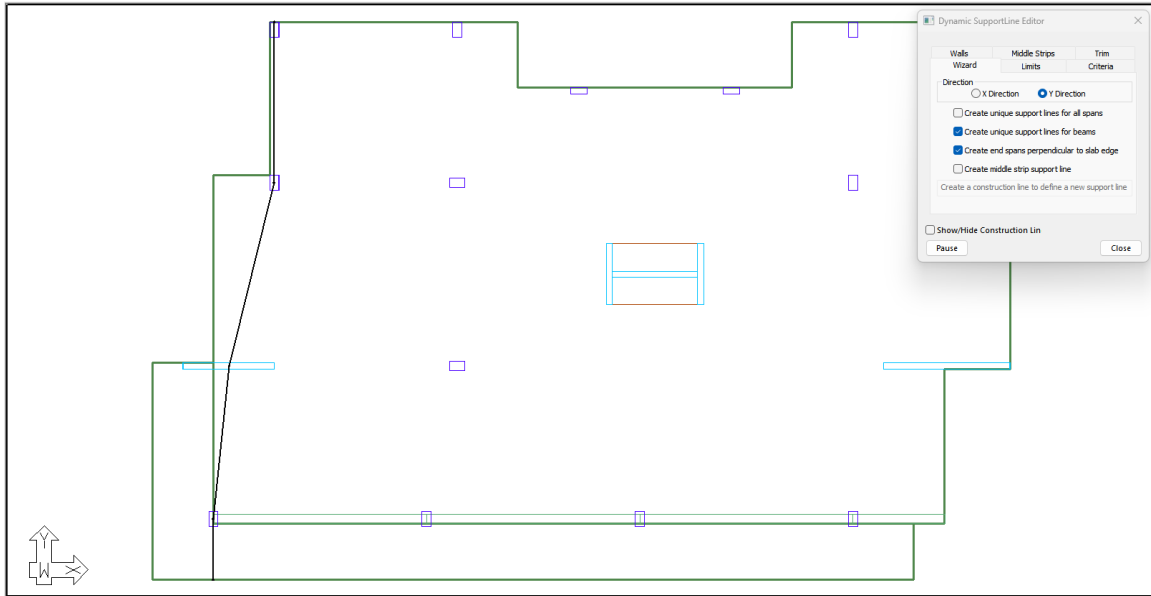

FIGURE 9-29
- Click on the **Top View**  icon in the *Bottom Quick Access* toolbar. This will bring you to the view of the model shown in **FIGURE 9-29**.